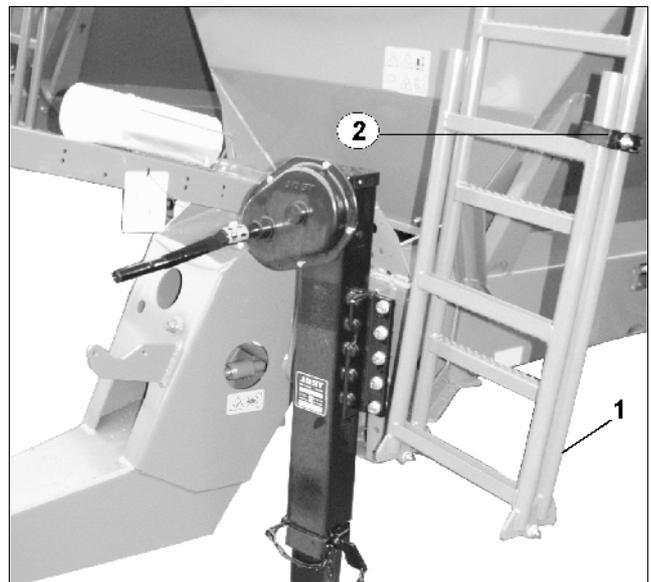

Fig. 45
- For cleaning, maintenance and repair use the foldable ladder (Fig. 45/1) to climb up the hopper.
- Lift the securing clamp (Fig. 45/2).
- Fold down the ladder (Fig. 45/1).